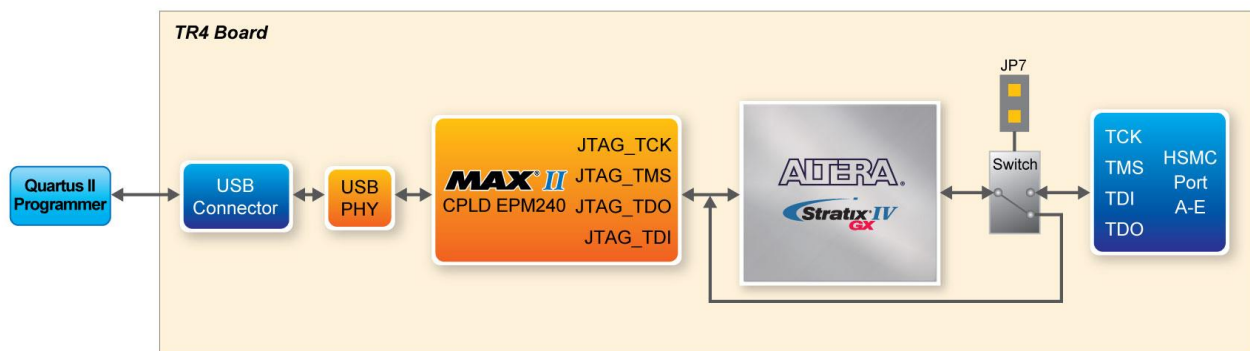

Figure 2-1 JTAG Configuration Scheme
- Connect the USB cable supplied directly to the USB Blaster port of the TR4 board (see **Figure 2-1**).